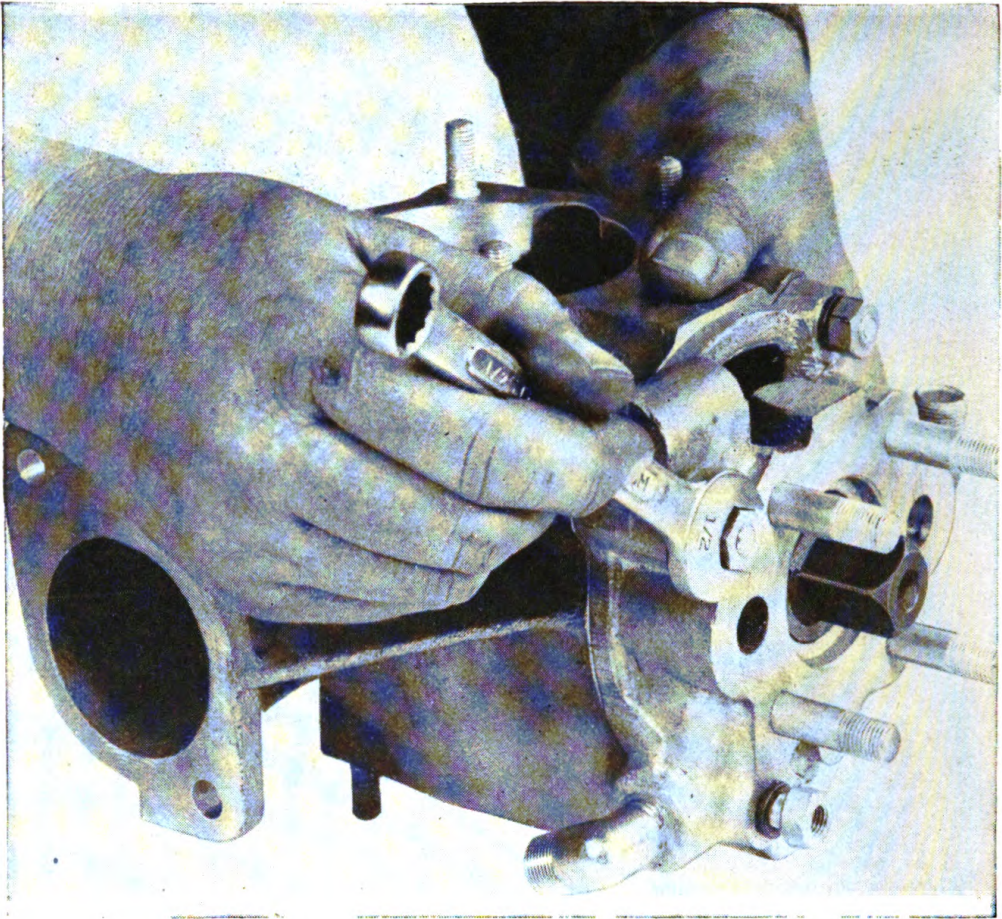
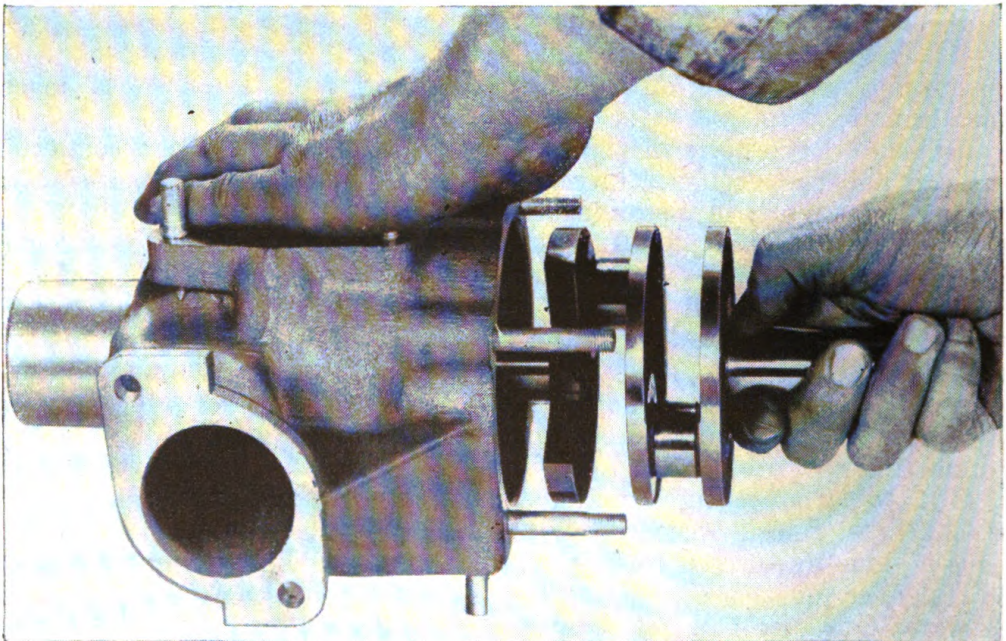

Figure 108. Removing crankcase head.
Figure 109. Withdrawing crankshaft.
(2) Remove crankcase head (fig. 108) to permit withdrawing crankshaft as shown in figure 109. Assemble in reverse of order described
(1) Make certain all parts are clean and in good mechanical condition.
(2) Spread thin coat of oil on crankshaft journals and crank pins, and a few drops in bearings of crankcase and crankcase head.
(3) Insert crankshaft. (See fig. 109.)
(4) Install crankcase head, being sure gasket is in place and bolt in position. Crankshaft should turn freely on completing this operation.
(5) Slip oil slinger over top of crankshaft. Tap down lightly, until it rests on top surface of journal bearing in crankcase. Follow by tapping both ends of crankshaft lightly with a mallet or hammer to make sure clearance exists between oil slinger and top end of bearing. Oil slinger should not ride or rub on bearing. Note groove cut in outside wall of oil slinger, leaving a narrow edge and a wide edge. Narrow edge should be directed downward. This is important to prevent oil escaping from crankcase.
(6) Piston rings should be fitted properly. Correct gap clearance is .005 to .010 inch, with no indication of binding at any point in the ring groove. Place several drops of oil in each ring groove. Turn rings around in grooves to spread oil film.